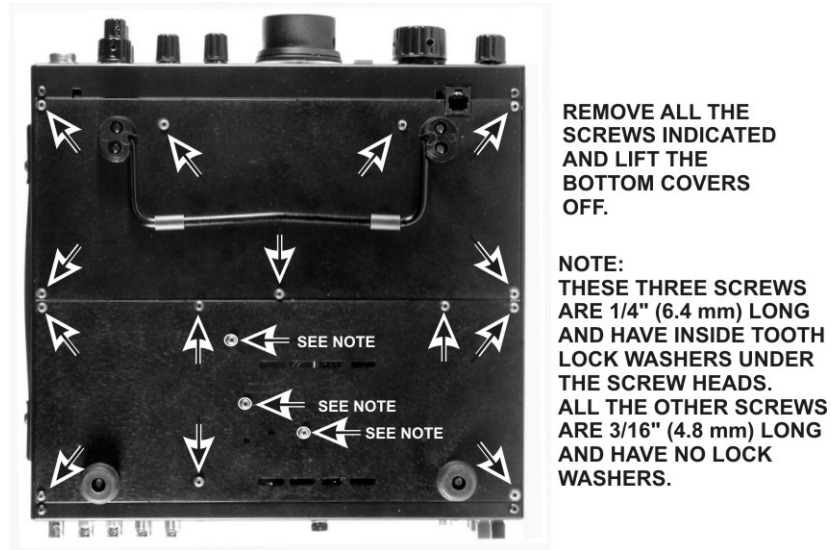

Figure 5. Removing the Bottom Covers.
- Turn the K3 upside down and remove the bottom covers (see Figure 5).
☐ Replace both bottom covers using the 4-40 black pan head screws you removed earlier. Note that three locations take the 4-40 1/4" (6.4 mm) black pan head screws with lock washers as shown in Figure 5, while the remainder are 4-40 3/16" (4.8 mm) screws. Be sure to replace these screws in the correct locations. Make sure all the screws are secure, but do not over tighten them/
Failure to replace the three 1/4" (6.4 mm) screws with their lock washers in the locations shown in Figure 5 may destroy power transistors in your K3!